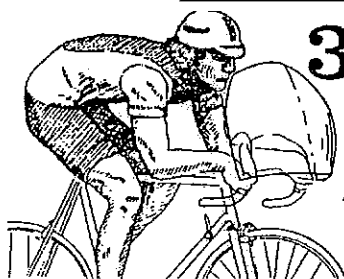

Fig. 3: The Zipper fairing provides approximately 12% reduction in drag at 30 km/h.
- (1) Use of a front fairing (Fig. 3);
- (2) Better aerodynamic form of rear luggage carriers;
- (3) Well designed bicycle clothing.